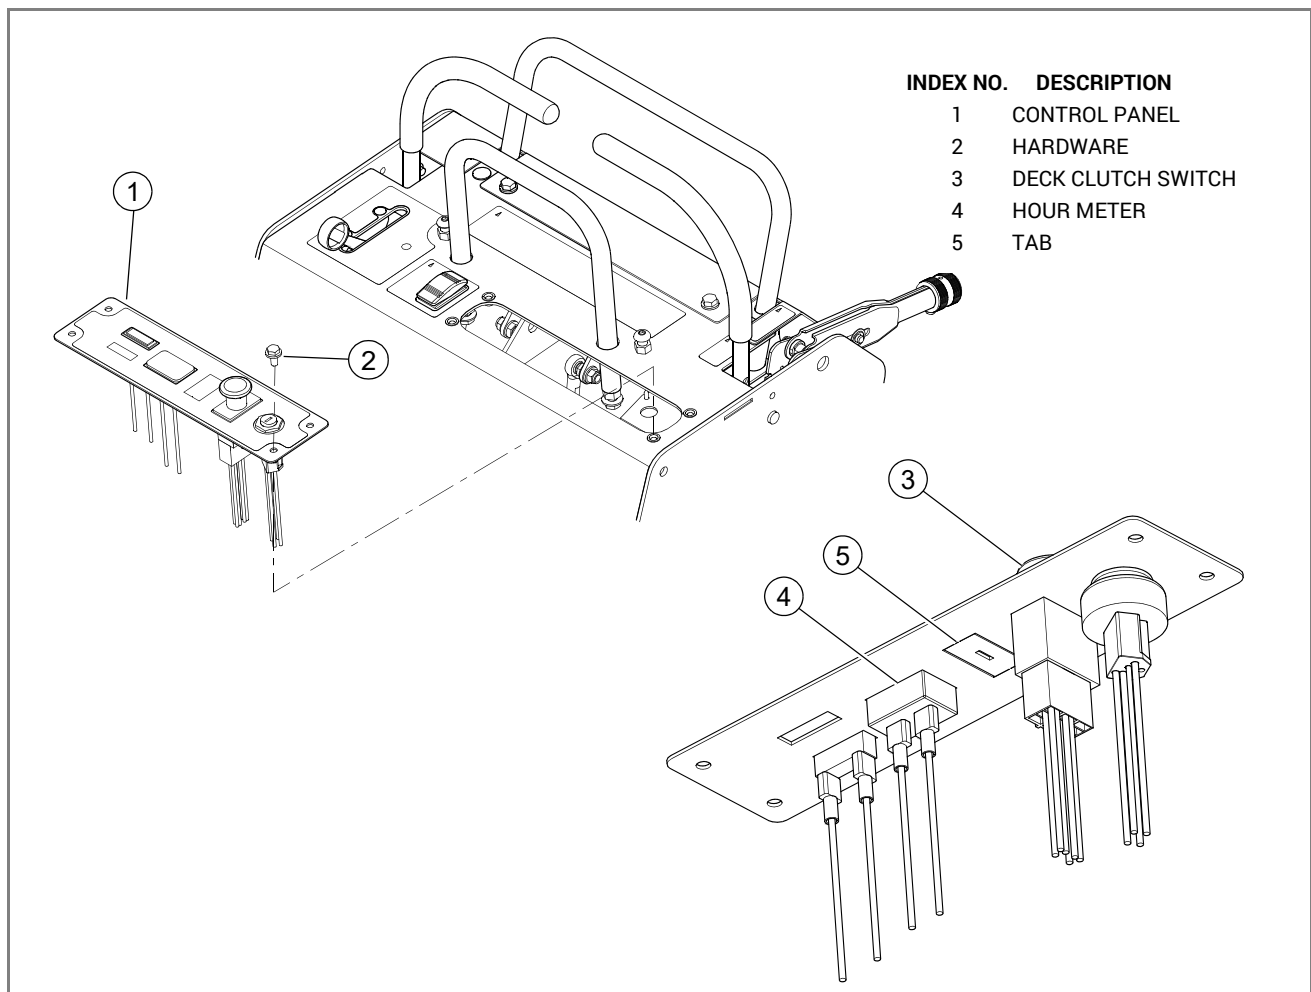

FIG. 7
9. Check the light harness routing and make sure the harness does not come in contact with any moving parts. Correct as necessary. Tighten the wire ties and cut off the excess wire tie ends. FIG. 7
10. Remove the hardware holding the control panel in place. Keep the hardware. Pull the panel up and out to access the back of the control panel. FIG. 7
11. Locate the rectangular panel tab between the deck clutch switch and the hour meter in the control panel. Using the panel tab as a guide, cut through the decal from the back of the control panel. Finish cutting the decal from the front side of the control panel if necessary. FIG. 7
12. Use a small pry bar to remove the panel tab. FIG. 7